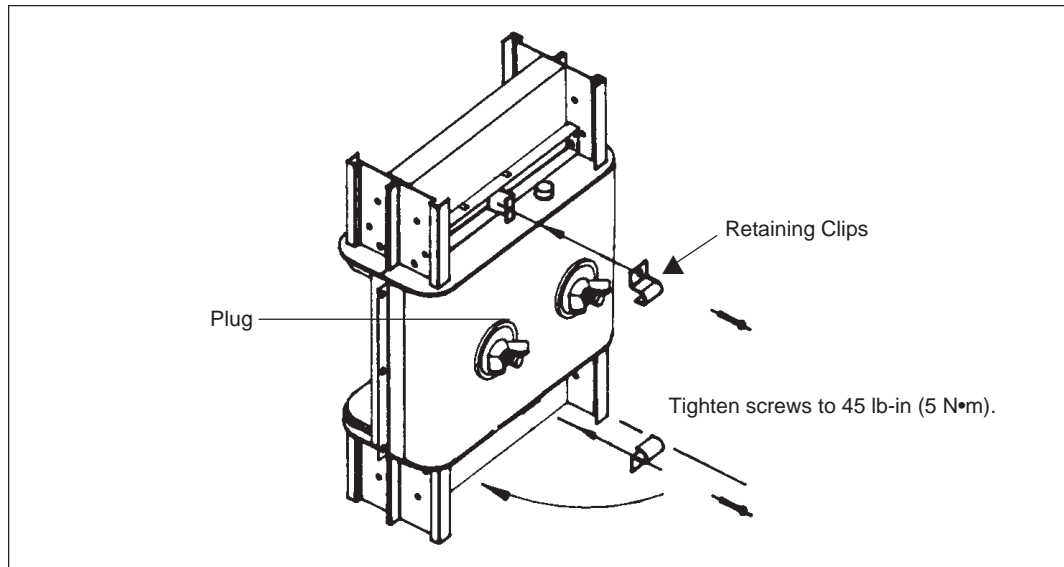

Figure 25
7. Install retaining clips, if required. The clips are not required if the cover has only one plug (figure 25).